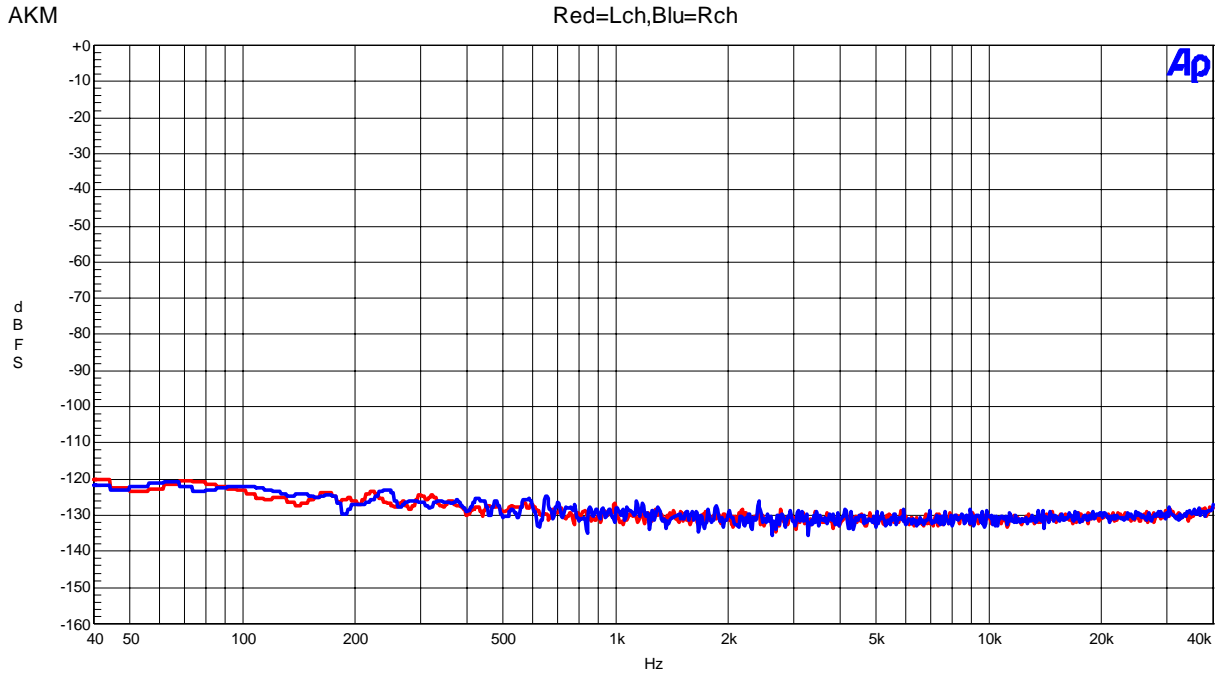

Figure 11. FFT(Noise floor)
- Figure 11. THD+N vs Input Frequency (Input Level=-0.5dBFS)